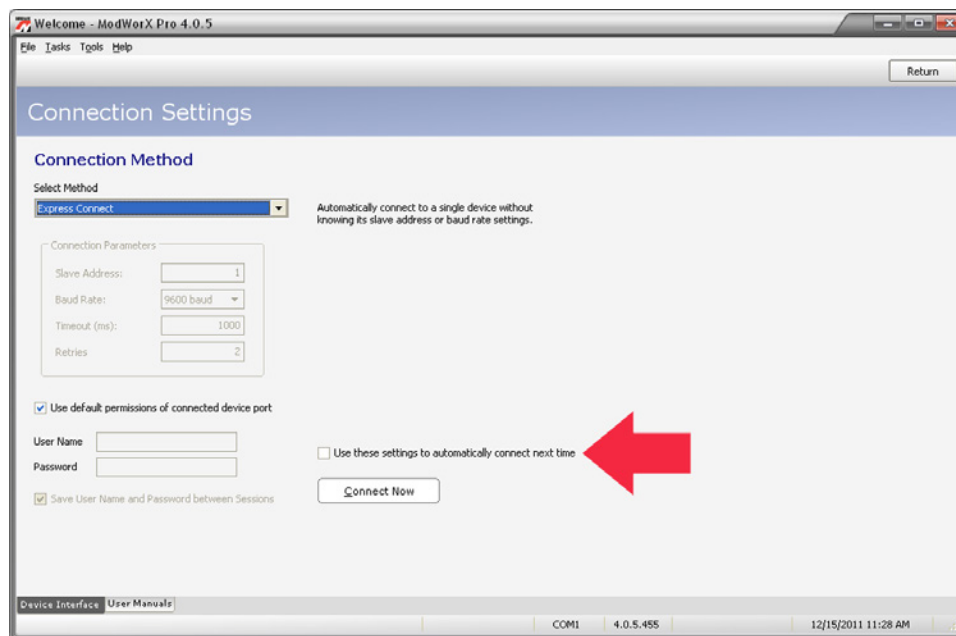

Figure 1.6
6. If you will use the same connection method each time you connect to the device, select the ***“Use these settings to automatically connect next time”*** checkbox at the bottom of the screen (Figure 1.6, page 12). The software will attempt to connect to the device without prompting the user to select a connection method.